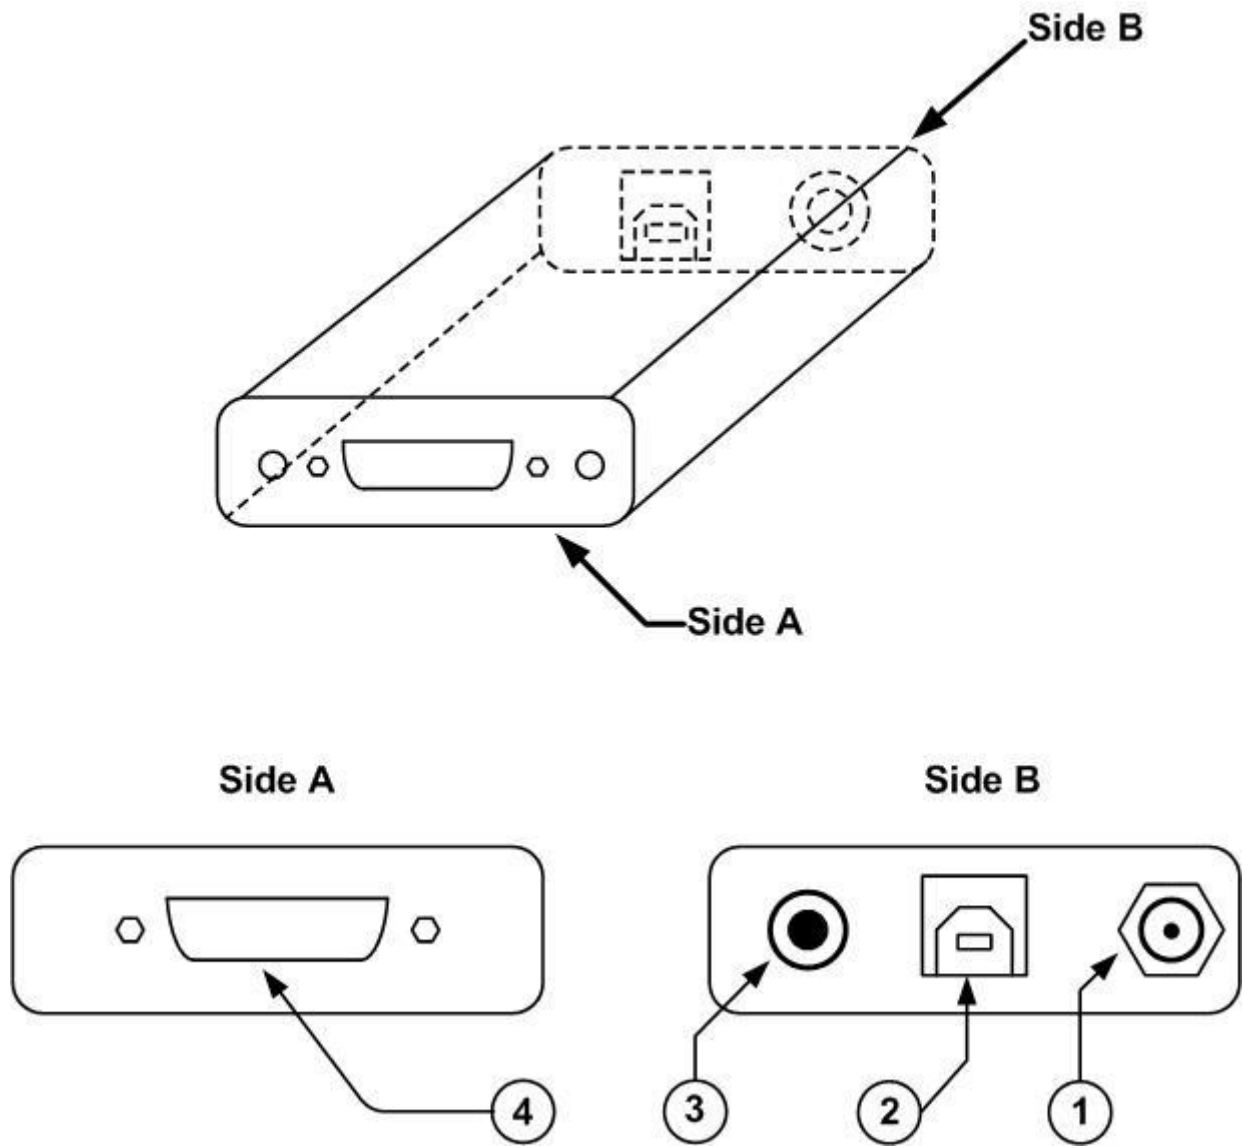

Fig. 3-1 P-LINK Top Panel
### 3 Front Panel Description : See figure 3-1 below
- 3- Connect a version 5 (or higher) power or energy detector head to the P-LINK using the **PROBE INPUT JACK** (see Fig. 3-1) while the P-LINK is disconnected from the PC.